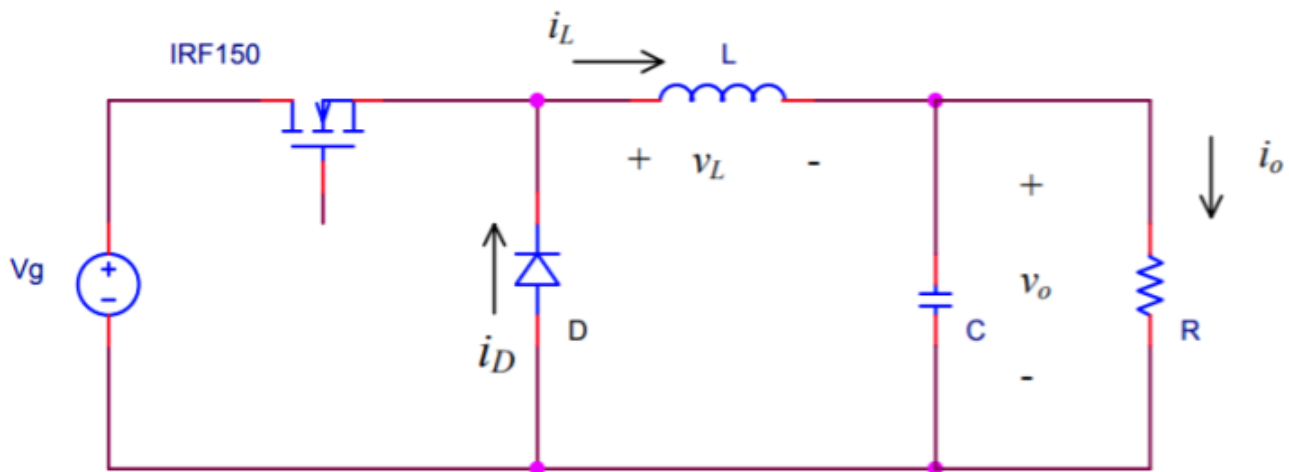
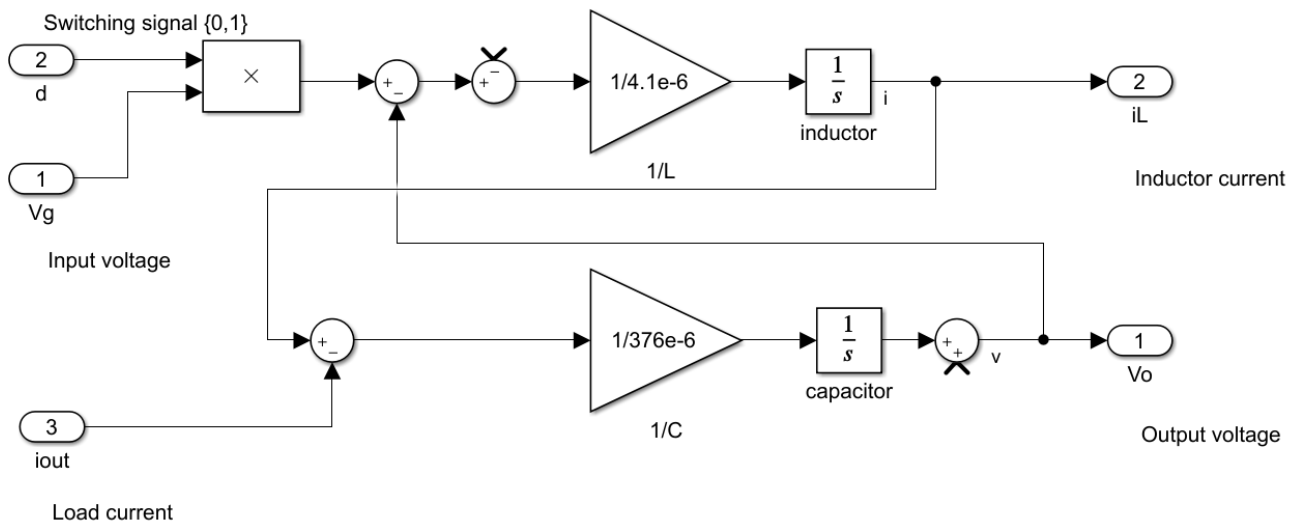

Figure 3: Buck Converter Circuit.
Figure 4: Digital Representation of a Buck Converter.
where both $f()$ and $g()$ are solvable using concepts in analog circuits. The buck converter in Figure 3 can be digitally represented as shown in Figure 4. In this design, we set L to be 4.1uH and C to be 376 uF.
- Open "open_buck_template.mdl". Implement the buck converter block using the block diagrams in Figures 4 and 5 in Simulink. Use duty cycle of 0.5. Show the following results: